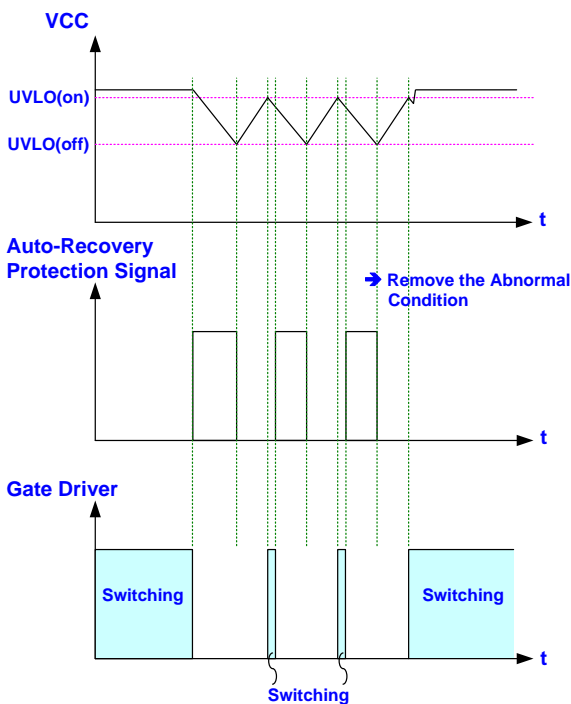

Fig 29.
As auto-recovery protection circuit latches the operation, the gate output will switch for a short term as every time VCC rises back to UVLO(ON). It therefore forces the VCC hiccup between UVLO(ON) and UVLO(OFF). As soon as the fault condition is removed, the system will resume its operation right away. Fig 29 shows the operation.